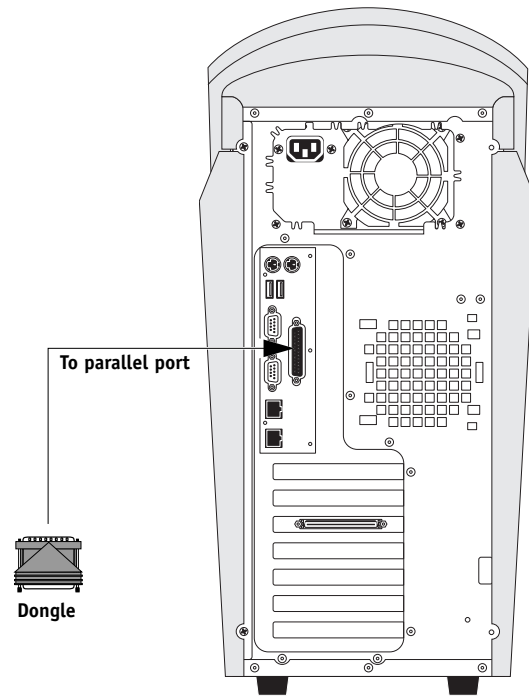

FIGURE 4-17 Connecting the dongle
1. **Unpack the dongle that shipped with the new motherboard and connect it to the parallel port on the back panel (see Figure 4-17).**
3.  If you have not done so already, connect the dongle to the parallel port on the back of the ColorPASS (see Figure 4-17 on page 4-30).